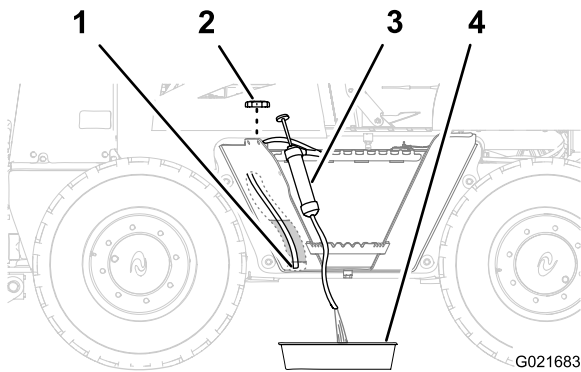

Figure 55
1. Remove the fuel cap from the fuel tank (Figure 55).
2. Route the intake hose of the siphoning equipment through the filler neck of the fuel tank and to the bottom of the tank (Figure 55).
3. Direct the discharge hose of the siphoning equipment into a drain pan (Figure 55).
6. Install the fuel cap onto the filler neck of the fuel tank (Figure 55).